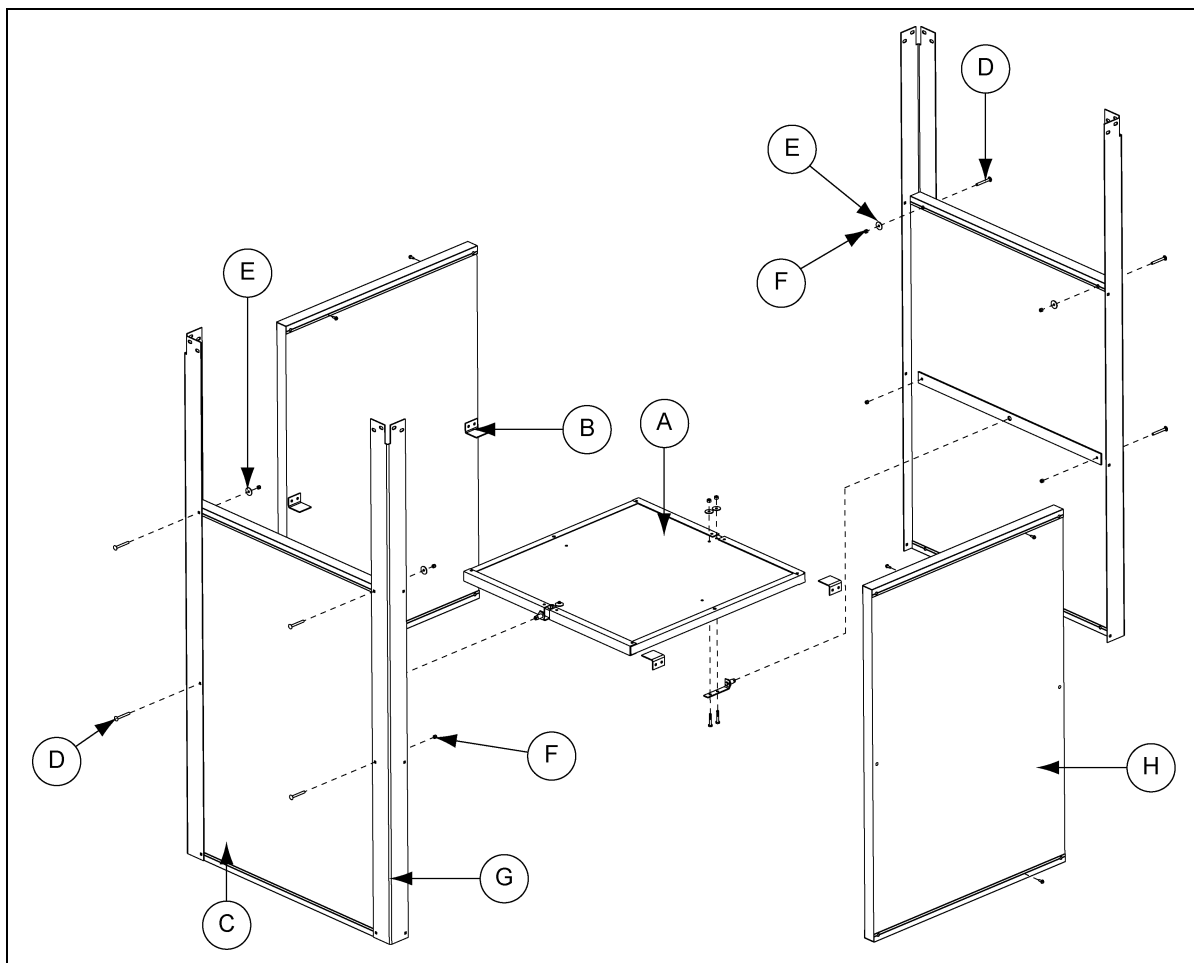

Figure 2A
1. Attach the laminated foam sheets (H) to the "C" channels by using the self-drilling screws.
2. While lining up the pivot knobs on the damper (A) with the holes in the main side assemblies (C), slide laminated foam sheets (H) into the slots on the main side assemblies.
3. Bolt chamber together. In the top holes, use four (4) 1/4" x 2-1/2" carriage bolts (D), four (4) nylon washers (E) and four (4) 1/4" nylock nuts (F) (washers and nuts go on the inside). In the middle holes, use four (4) 1/4" x 2-1/2" carriage bolts (D), four (4) aluminum stops (B) and four (4) 1/4" lock nuts (F).
4. The aluminum stops (B) stop the damper in its closed position. The direction they are installed is important. They must be installed oriented as shown in Figure 2A.